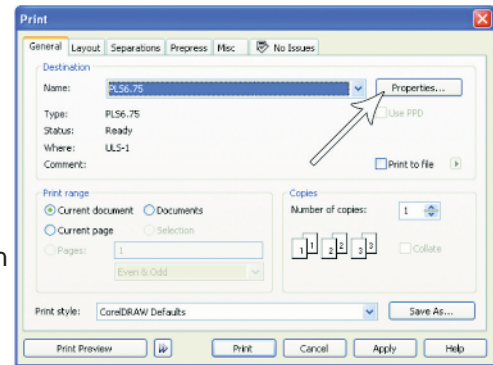
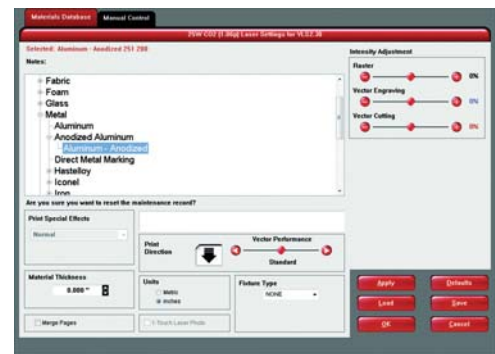

Figure 4
Figure 5
2. When you are ready to print the job, select PRINT from the CorelDRAW FILE menu. Make sure that your laser system printer driver appears in the DESTINATION NAME dropdown list, and then click PROPERTIES (Figure 4) to display your laser system printer driver settings (Figure 5).
3. Choose your material category, in this case metal, and then select the desired material: Aluminum Anodized (Figure 5).
7. Now Select PRINT in the Print dialog window (Figure 4).